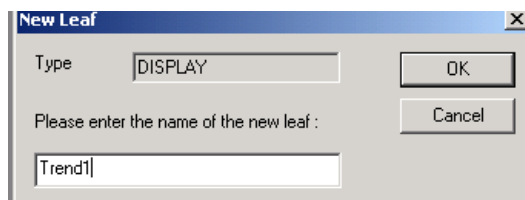

Figure 26. Entering a Display Name
- b. Enter a name for the new display, Figure 26, then click **OK**.